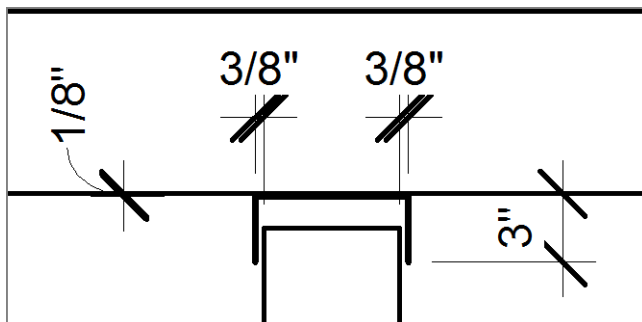

FIGURE 12.63: The top track is now in place.
The next step is to add the track to the bottom of the floor. You'll do this by creating three wide lines. The trick is to do a good amount of offsetting. If you want to explore and try the procedure on your own, look ahead to Figure 12.63 and try to match it dimensionally. Remember, you're using wide lines for the track.
12. Delete the 3” (75mm) horizontal line. Your detail should now look like Figure 12.63.